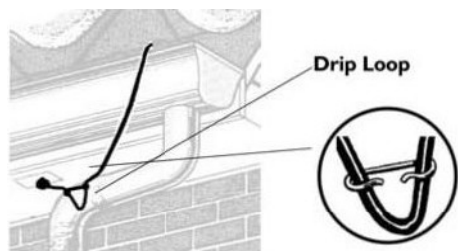

Figure 24. Forming a drip loop near the starting point.
- If no damage is present, plug the power cord into the receptacle. Arrange the cord to form a drip loop using a spacer (see Figure 24). The purpose of the drip loop is to prevent melt water from tracking along the cord and into the receptacle.